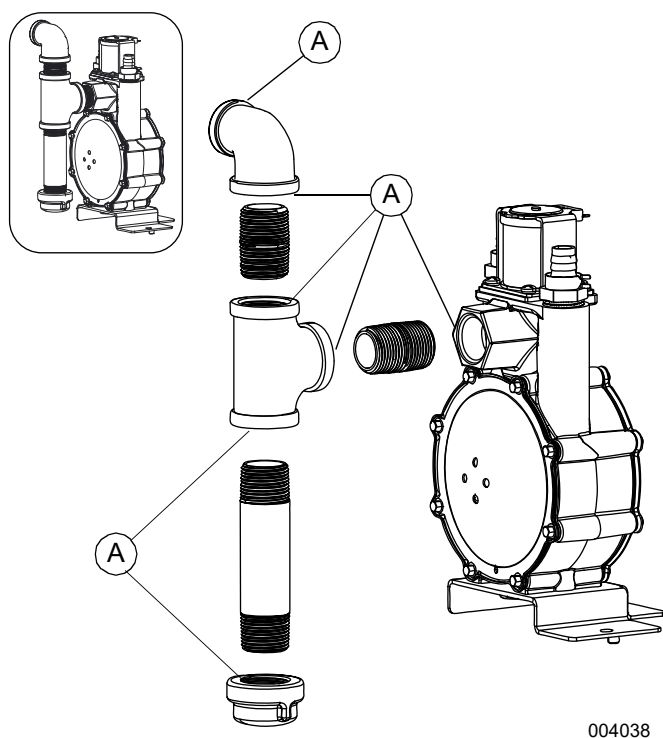

Figure 4-12. Connection Points to Leak Check
See Figure 4-12. Perform a final fuel system leak test after generator installation. The test will identify possible leaks at all connection points (A).